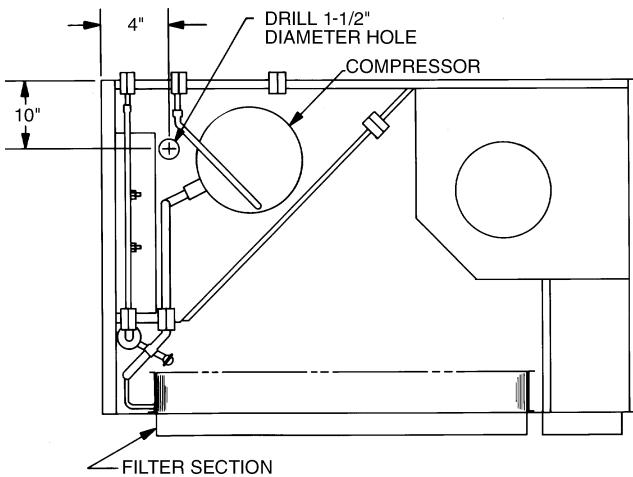

Fig. 1 — Location of Drilled Hole (Top View)
1. Before installing unit, drill 1 1/2-in. diameter hole in top cover of evaporator to allow routing of 1/4-in. copper tubing, taking care not to drill into any other part of unit. See Fig. 1.